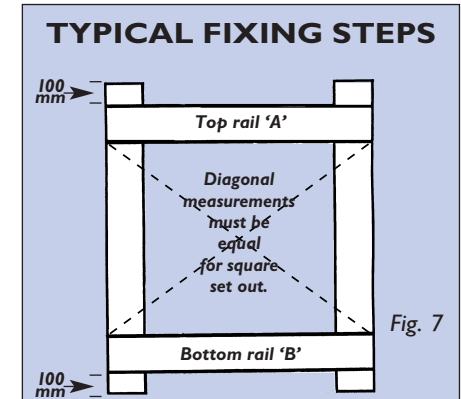
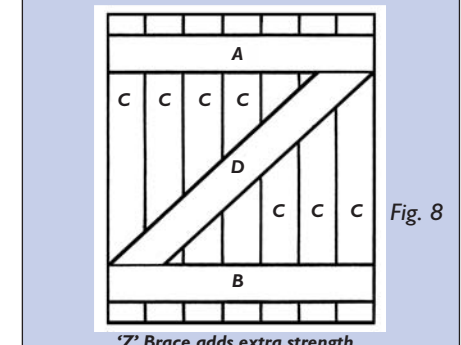
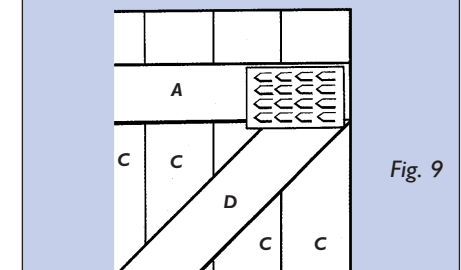

Fig. 7
Fig. 8
Fig. 9
Overhang of pickets or boards over bottom rail should be 100 mm (Fig. 7 and 10).
Measure the height and width of the gate to determine the lengths that you will require and cut rails (A and B) and face boards (C) to suit (Fig. 7). Place rails on flat surface parallel at required distances and single nail two extreme outside boards to rails allowing for 100 mm overhang over bottom rail (Fig. 7).
Turn gate over and square the rails (diagonal measurements must be equal for a square set-out) and fix securely (Fig. 7). Cut and fix 'Z' brace into place using skew nail method or nail plate brace to rail (Fig. 9). Check that frame remains square as you continue, since this will ensure the finished gate is square (Fig. 8).